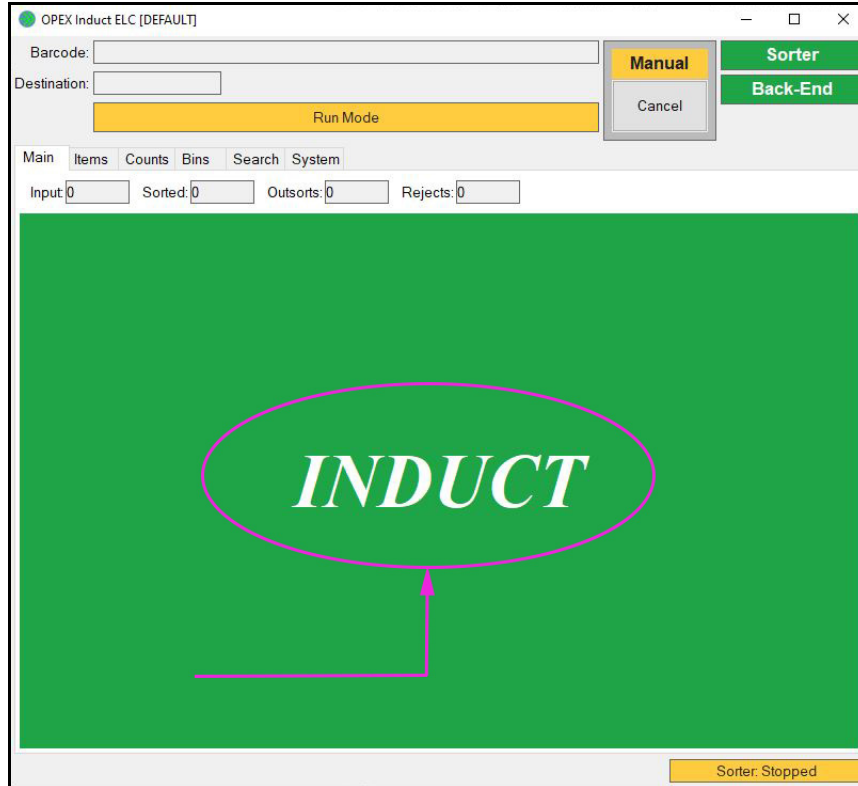

Figure 4-33: OPEX Induct ELC Screen - Read Successful
4. Check the screen of the OPEX Induct ELC. If the read was successful, it will be green and display “INDUCT” (see Figure 4-33).